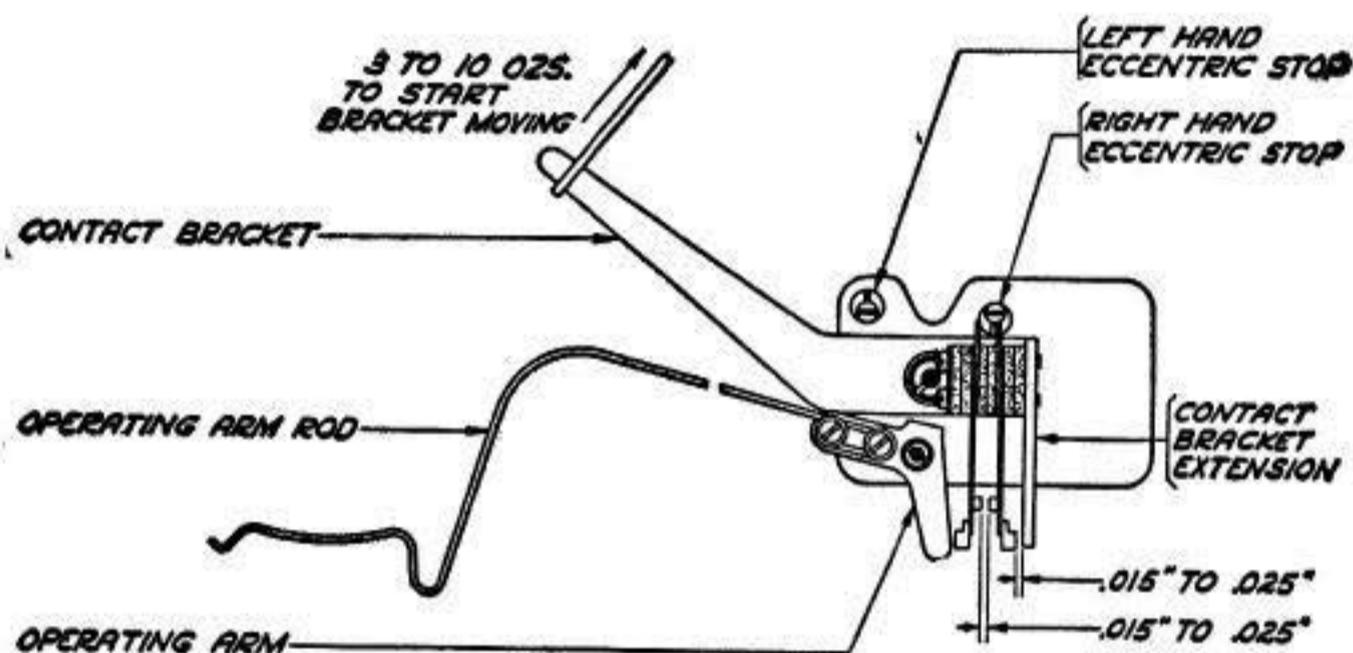

Fig. 1.
2.02 When equipped with the TP84136 tape stop switch assembly, shown in Fig. 1, apply the adjustments given herein in place of the requirements given for tape stop switch mechanisms in P35.631.